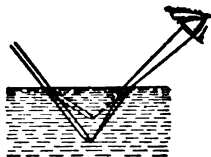

FIG. 366.—The stick appears to be bent on account of refraction.
**375. Common Examples of Refraction.**—Everyone has noticed the apparent bending of an oar, of a stick, or of a spoon when placed in water (see Fig. 366), while many have observed that the bottom of a pond or stream looks nearer to the surface than it really is. These and similar illusions are due to the *refraction* or bending of light rays as they pass from one medium to another.